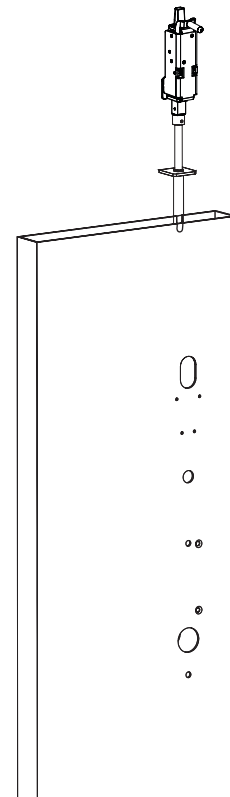

Fig. 3- Top Case
2. Refer to instruction sheet FM436 for rod and inner case installation on wood doors. (Figure 3).